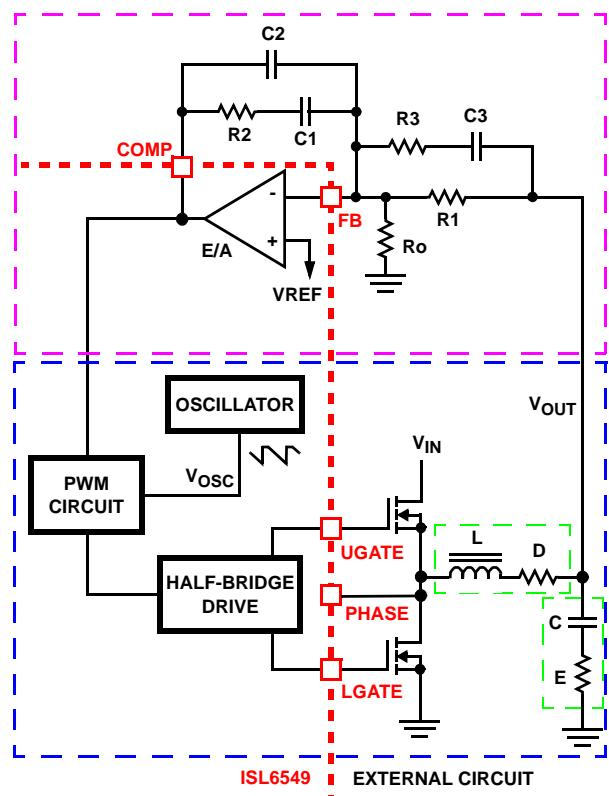

FIGURE 10. VOLTAGE-MODE BUCK CONVERTER COMPENSATION DESIGN
Figure 10 highlights the voltage-mode control loop for a synchronous-rectified buck converter, applicable to the ISL6549 circuit. The output voltage (V_{OUT}) is regulated to the reference voltage, VREF. The error amplifier output (COMP pin voltage) is compared with the oscillator (OSC) modified saw-tooth wave to provide a pulse-width modulated wave with an amplitude of V_{IN} at the PHASE node. The PWM wave is smoothed by the output filter (L and C). The output filter capacitor bank's equivalent series resistance is represented by the series resistor E.
The compensation network consists of the error amplifier (internal to the ISL6549) and the external R1-R3, C1-C3 components. The goal of the compensation network is to provide a closed loop transfer function with high 0dB crossing frequency (F_0 ; typically 0.1 to 0.3 of F_{SW}) and adequate phase margin (better than 45 degrees). Phase margin is the difference between the closed loop phase at F_{0dB} and 180°. The equations that follow relate the compensation network's poles, zeros and gain to the components (R1, R2, R3, C1, C2, and C3) in Figure 10.
1. Select a value for R_1 (1k Ω to 5k Ω , typically). Calculate value for R_2 for desired converter bandwidth (F_0). If setting the output voltage via an offset resistor connected to the FB pin, R_o in Figure 10, the design procedure can be followed as presented.